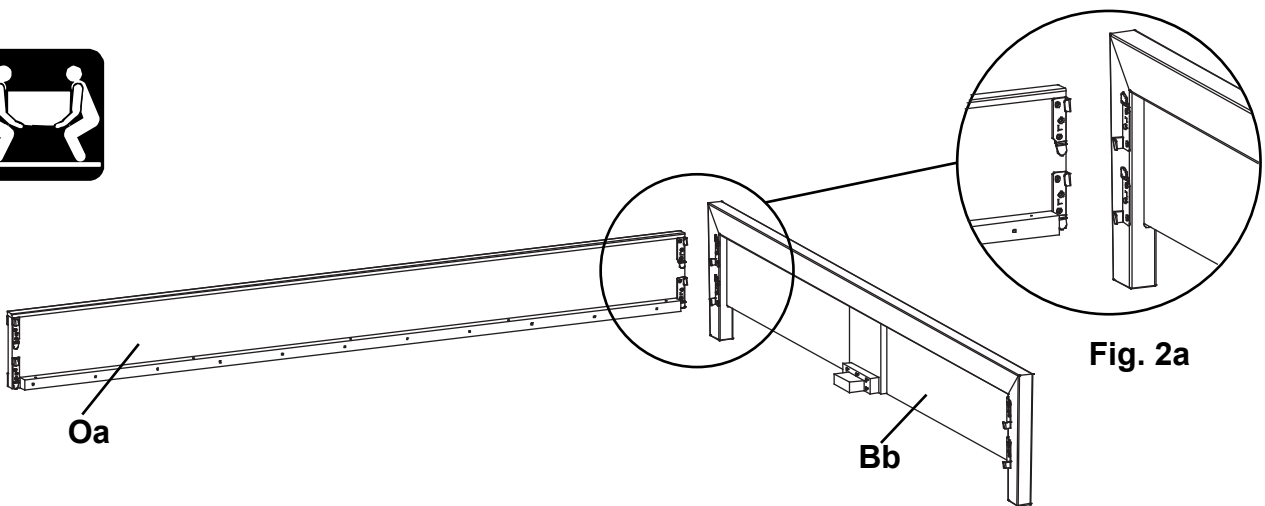

Fig. 2
2. To attach the Footboard (Bb) to the Side Rail (Oa), align the Brackets and slide the Side Rail (Oa) down on to the Footboard (Bb). See Figures 2 and 2a.